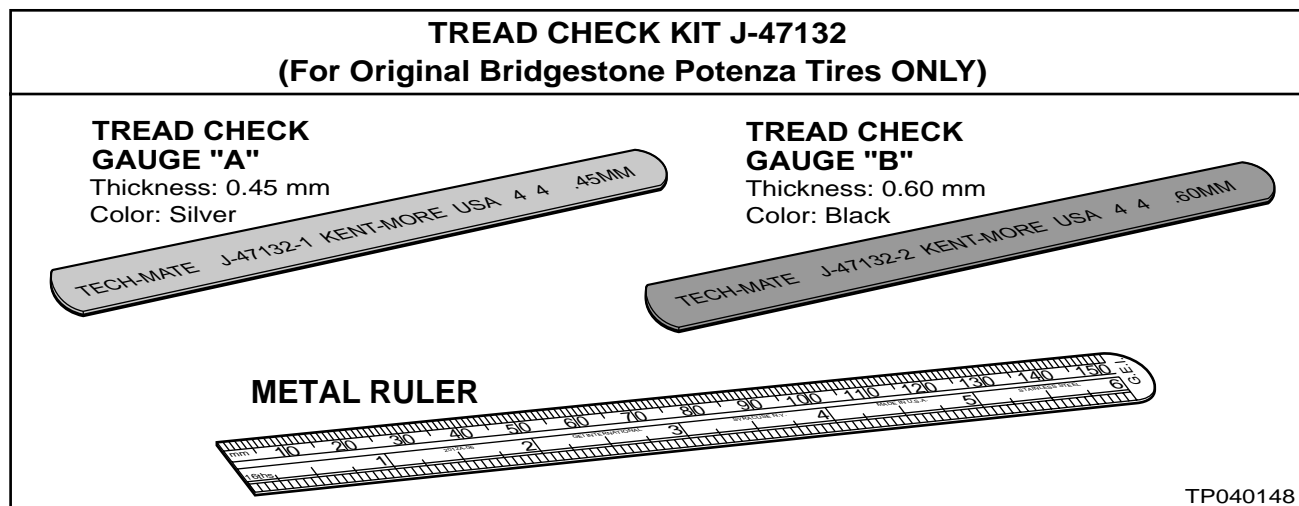

Figure 1
- **Tread Check Kit J-47132** (see Figure 1). This Kit is essential to perform this procedure and was previously sent to each dealer.